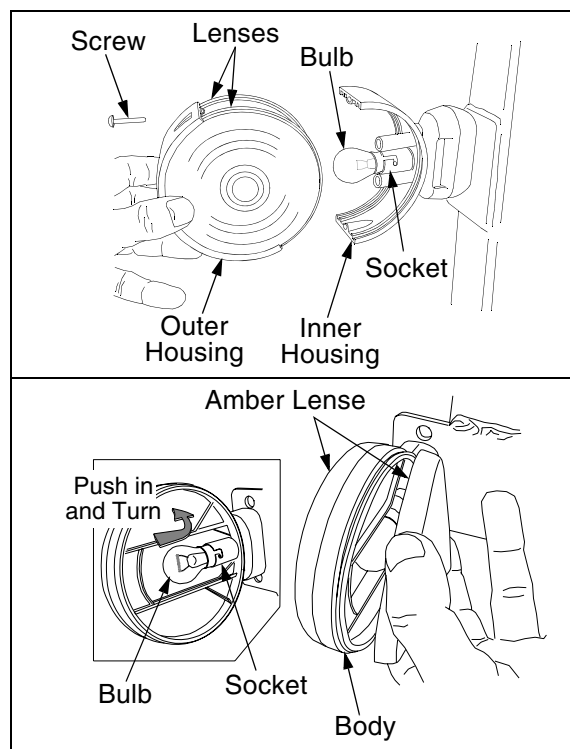

Figure 37
- **Screw fastened hazard light assembly:** Grasp the outer half of the light housing and both the front and rear lenses. Accessing the screws from the notches at the top and bottom of the outer housing, remove the two screws and remove the outer housing and lenses. See Figure 37.
- **Snap together hazard light assembly:** Insert a **thin** bladed screwdriver, or similar tool, between an amber lense and the hazard light body, then twist to separate the lense from the body. See Figure 37.
- Push the bulb inward and turn counterclockwise, then pull the bulb outward to remove from the light socket. See Figure 37.